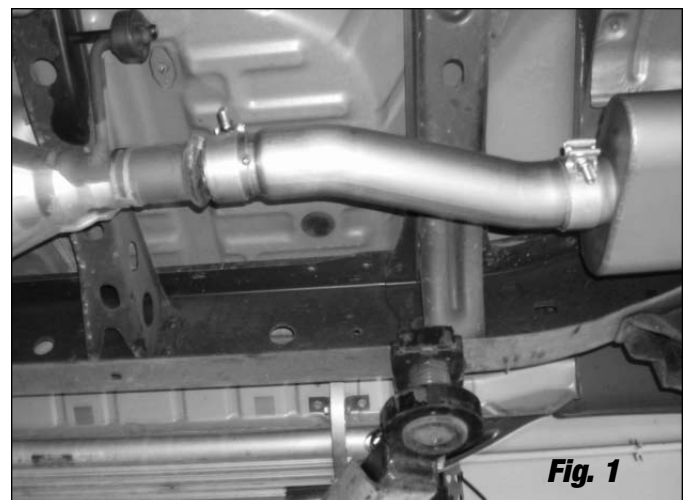

Fig. 1
3. Install I-pipe #25-3269 behind the rear most catalytic converter (**See Fig. 1**).